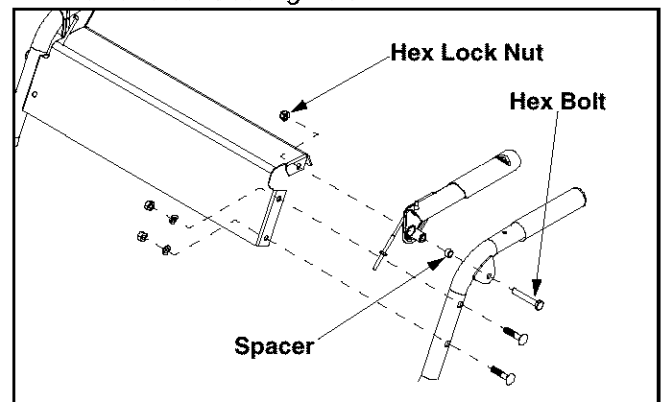

Figure 3
- Slide spacer on each end of the clutch grip and place the clutch grip in position on the each respective handle. Clutch grips must sit on top of the handles. See Figure 3.
- Secure each clutch grip with a hex bolt threaded from the outside of each handle and tighten with hex lock nut under handle panel. See Figure 3.